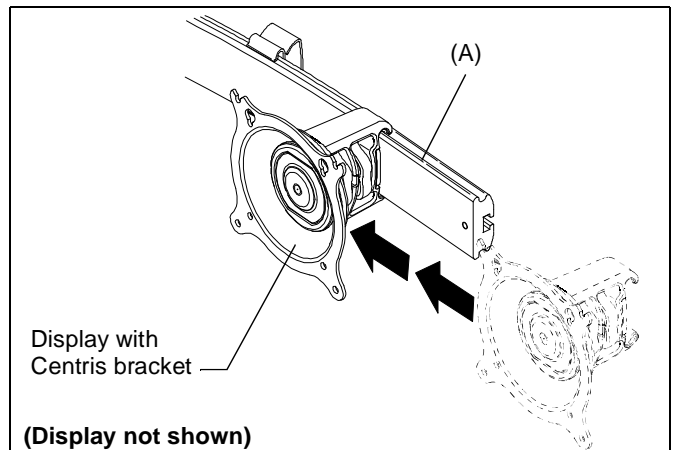

Figure 7
10. Slide display with Centris bracket onto array rail. (See Figure 7)